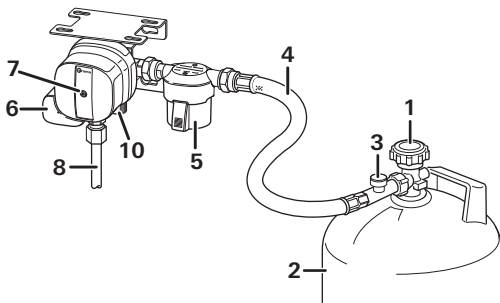

Figure 1a
- Connect the gas cylinder (2) and ensure that the hose connection is in perfect condition.
- Open the cylinder valve (1).
- Firmly press the hose rupture protection (figure 1a – 3) on the high-pressure hose for about 5 seconds.
- If the yellow reset button (7) is not pressed (“not ready for operation” position), reset the crash sensor.
- Close the valve (1) of the empty gas cylinder (2).
- Remove the high-pressure hose (4) from the gas cylinder (2) and remove the clip-on adapter, if present.
- Open the full gas cylinder's valve (1).
- Press the hose rupture protection (figure 1a – 3) and if necessary the yellow reset button (7), turn it slightly clockwise and hold it for 5 seconds.